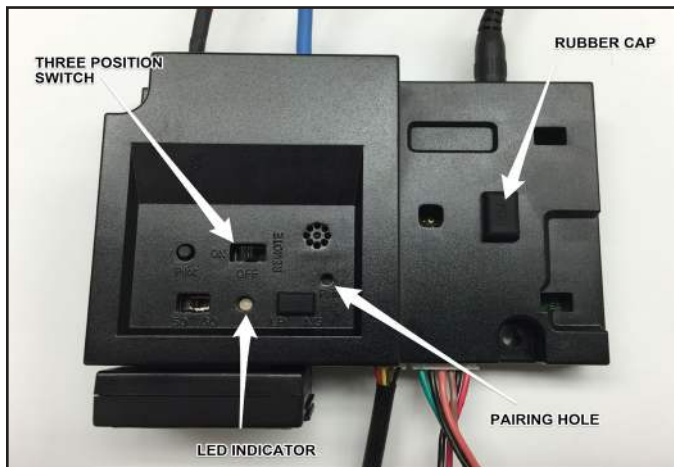

Figure 2. IFT-ECM
- Remove protective rubber cap from connector on the top of the IFT-ECM. See Figure 2.